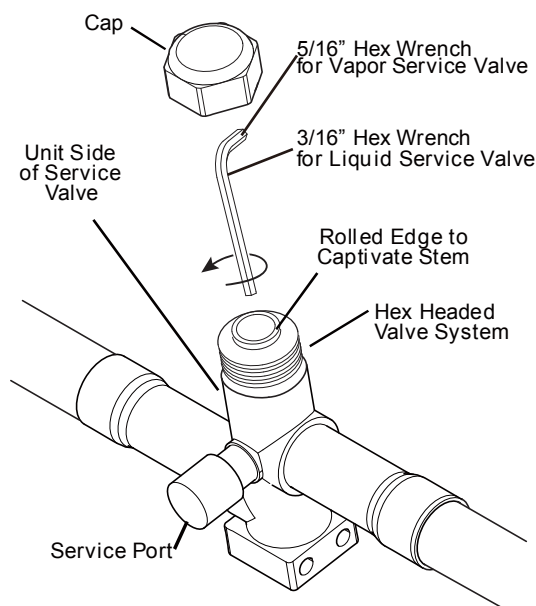

Figure 11-1
1. Remove Service Valve Cap (Fig. 11-1).
2. Fully insert hex wrench into the stem and back out counterclockwise until valve stem just touches the rolled edge (approximately five (5) turns.)